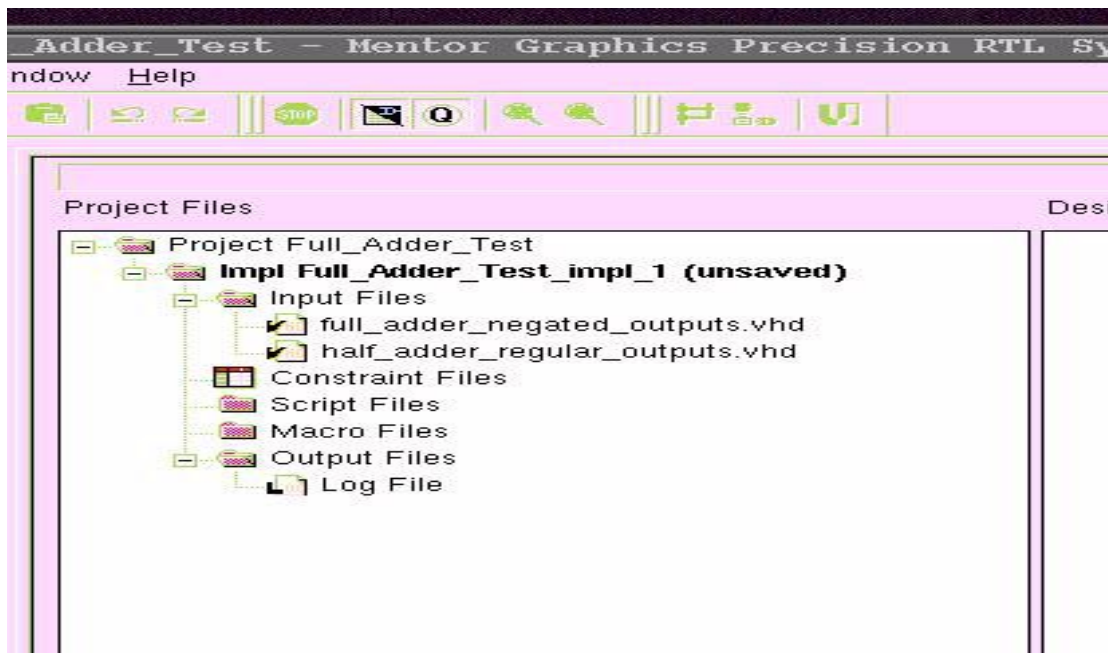

Figure 13: Project files pane of the main Precision window indicating added files.
(6) Repeat the above procedure to add the `half_adder_regular_outputs.vhd` file. You will now see that the files you specified are listed in the Project files pane of the main window as shown in Figure 13.